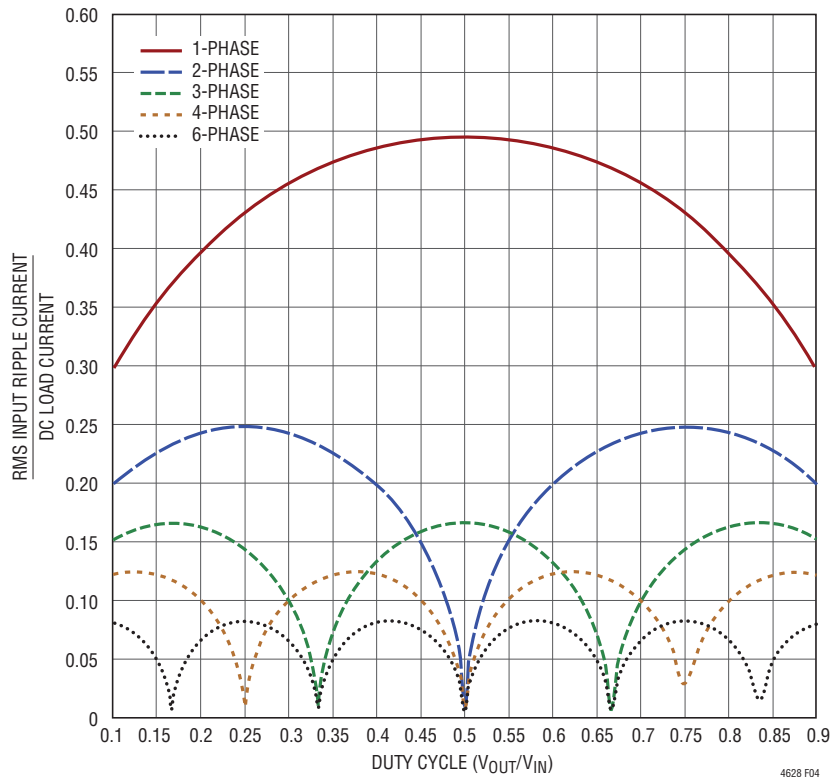

Figure 4. Input RMS Current Ratios to DC Load Current as a Function of Duty Cycle
**$V_{OUT1}$  (A1-A5, B1-B5, C1-C4):** Power Output Pins. Apply output load between these pins and GND pins. Recommend placing output decoupling capacitance directly between these pins and GND pins. See Figure 4.
**$V_{OUT2}$  (A8-A12, B8-B12, C9-C12):** Power Output Pins. Apply output load between these pins and GND pins. Recommend placing output decoupling capacitance directly between these pins and GND pins. See Figure 4.
Analog Devices Application Note 77 provides a detailed explanation of multiphase operation. The input RMS ripple current cancellation mathematical derivations are presented, and a graph is displayed representing the RMS ripple current reduction as a function of the number of interleaved phases. Figure 4 shows this graph.